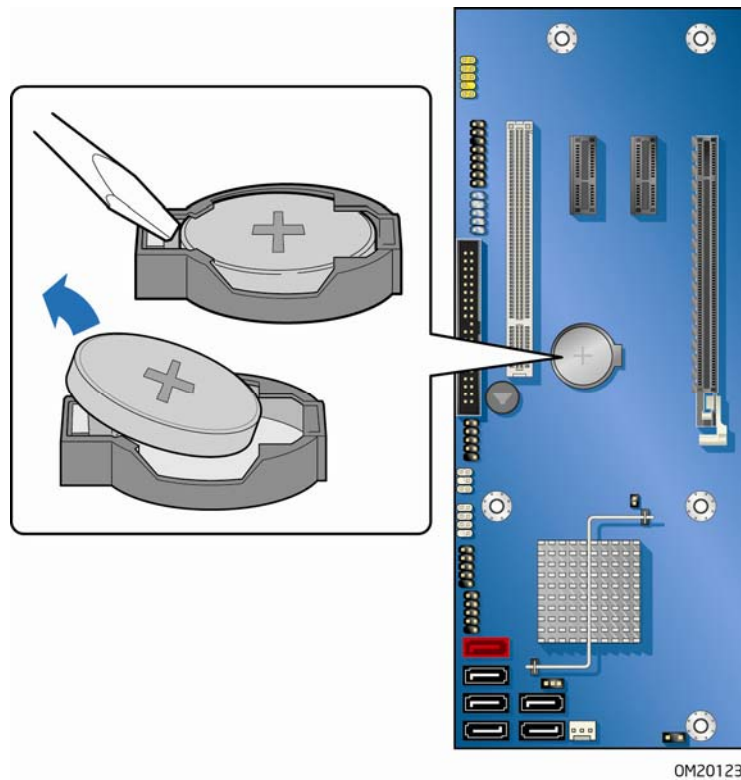

Figure 28. Removing the Battery
When the voltage drops below a certain level, the BIOS Setup program settings stored in CMOS RAM (for example, the date and time) might not be accurate. Replace the battery with an equivalent one. Figure 28 on page 61 shows the location of the battery.
4. Locate the battery on the board (see Figure 28).